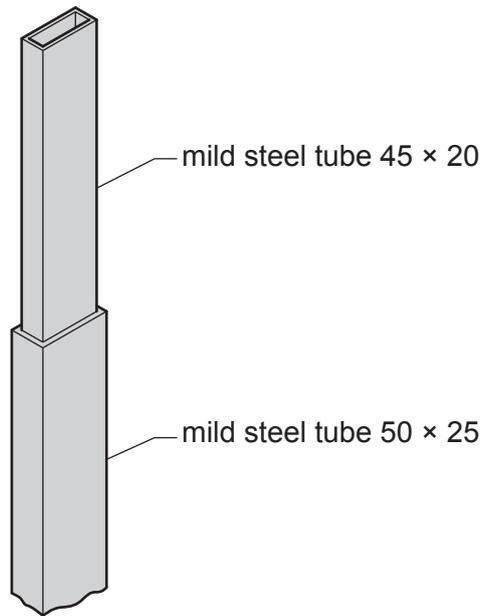

Fig. 12.3
- (d) The height of the desk can be adjusted between 700–800 mm. Fig. 12.3 shows part of one of the adjustable legs.